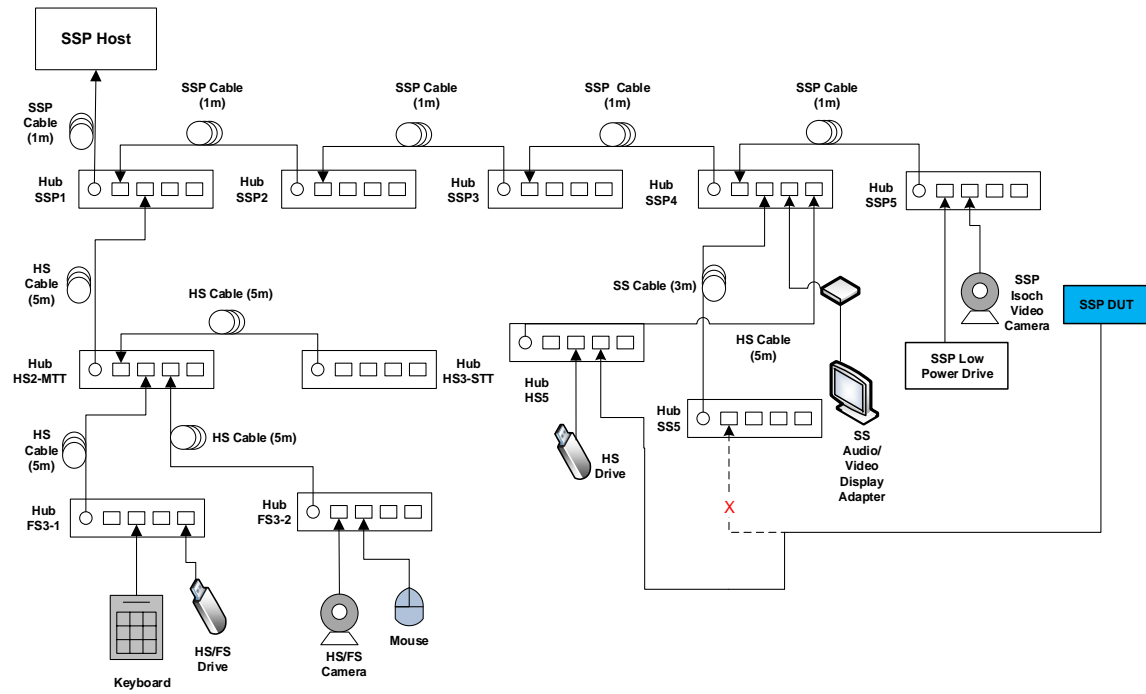
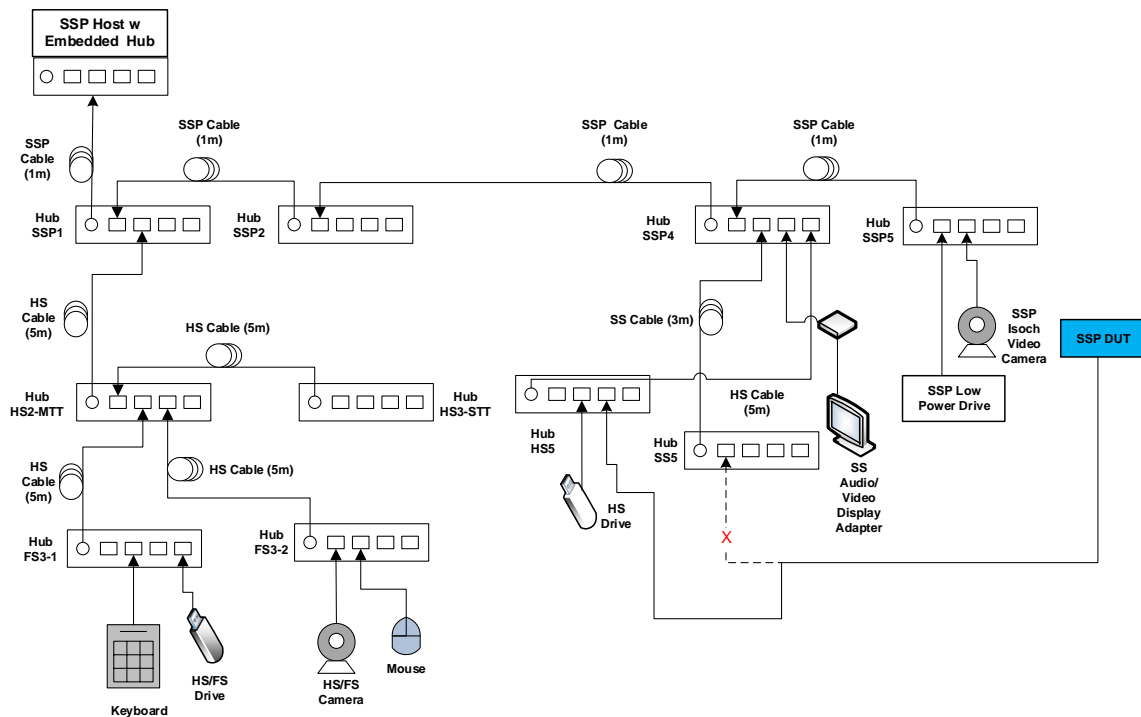

Figure 2-5: Topology Change 2
Figure 2-6: Topology Change 2 (embedded hub)
- While operating the devices, attach the Device Under Test to port 3 on Hub HS5 as shown below in Figure 2-5 and Figure 2-6.